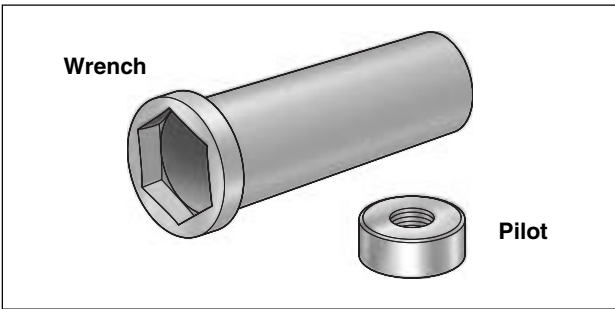

Figure 6-20. Mainshaft Locknut Wrench/Pilot
- Install pilot of MAINSHAFT LOCKNUT WRENCH (Part No. HD-94660-37B) on threaded end of mainshaft. See Figure 6-20. Slide sleeve of locknut wrench over pilot and onto sprocket nut. Tighten sprocket nut to 60 ft-lbs (81 Nm). As the nut is tightened the handle of the sprocket locking tool rises to contact the pivot shaft, thereby preventing sprocket/mainshaft rotation. See Figure 6-21.